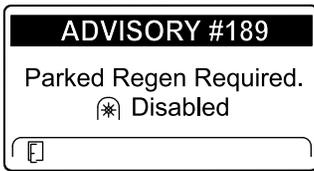

Figure 42
- If you do not perform a parked regeneration within 2 hours, the InfoCenter displays parked regeneration required—power takeoff disabled ADVISORY #189 (Figure 42).